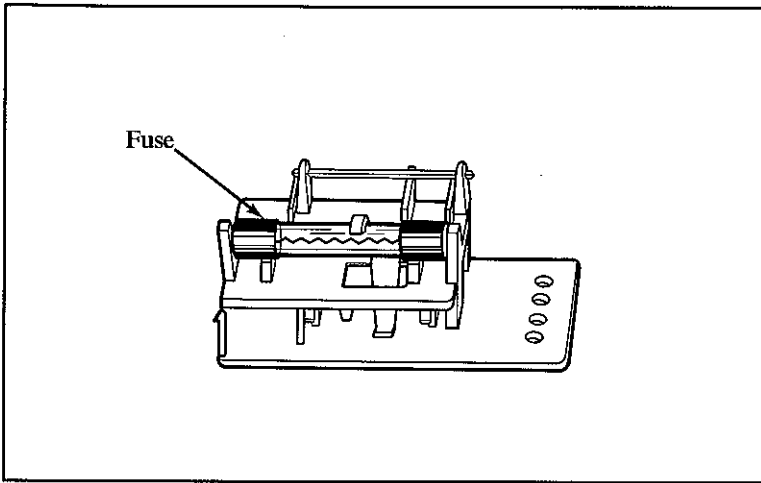

Figure 12-2.
- Note the orientation of the fuse(s) in the holder. Remove the fuse, then replace with the new fuse, oriented in the same position. See Figure 12-2. On 220/240V instruments, both of the fuses should be replaced, even though only one may look faulty.